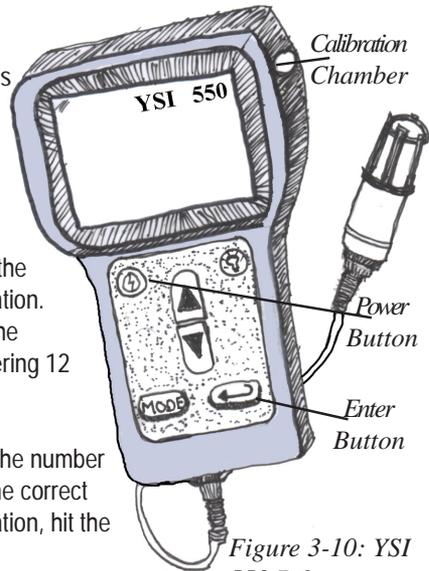

Figure 3-10: YSI 550 DO meter.
2. Press and release the mode button (Figure 3-10) until the display reads in %.
2. Fill the Direct Reading Titrator (syringe 0377) with \*Sodium Thiosulfate, 0.025N (4169). Insert the titrator into the center hole of the titration tube cap (Figure 3-10). While gently swirling the tube, slowly press the plunger to titrate until the yellow-brown color is reduced to a very faint yellow. *See following section on How to Use and Fill Titrator pg 3-29 and 3-30).*